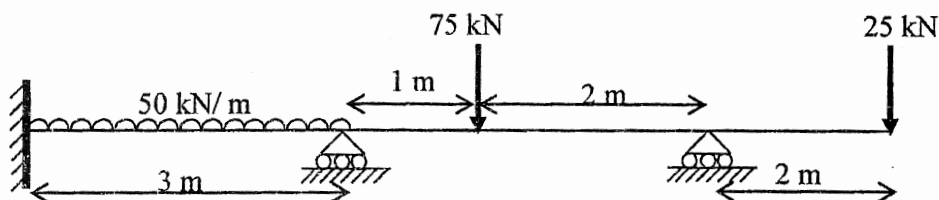

Fig.7
7. Draw the shear force and bending moment diagrams of a continuous beam loaded as shown in Fig.7. Assume the flexural rigidity is constant.